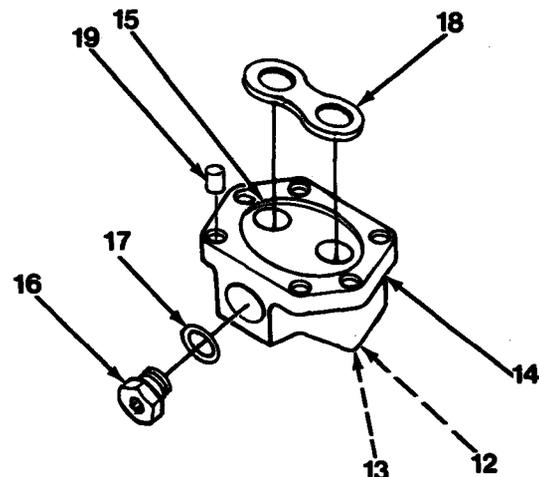

Figure 13-3
7. Install two dowel pins (27) and square ring (26) into rear body (20). Use a small amount of grease MIL-G-10924 to retain square ring (26) during assembly.
8. Align matchmarks and install rear body (20) to front body (21).
9. Install loading seal (25) on wear plate (24). Use a small amount of grease MIL-G-10924 to retain loading seal ends during installation.
10. Install wear plate (24) and loading seal (25) with flat side up and loading seal ends toward the inlet side.
11. Install driven gear (23) and rear drive gear (22) into rear body (20).
12. Install thrust plate (18, Figure 13-3) into rear cover (14) with brass side toward gears.
13. Install two dowel pins (19) and square ring (15) into rear cover (14). Use a small amount of grease MIL-G-10924 to retain square ring (15) during installation.
14. Install O-ring (17) on socket head plug (16).
15. Install socket head plug (16) into rear cover (14).
16. Align matchmarks and install rear cover (14).
17. Install four special washers (13) and cap-screws (12). Torque four cap screws (12) to 34 to 38 lb-ft (46 to 52 N•m).